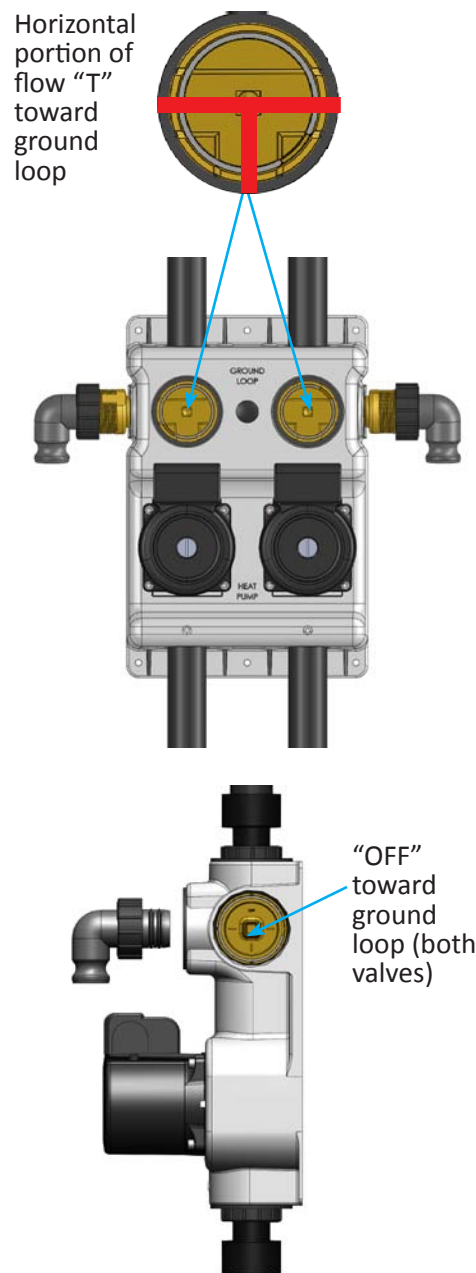

Figure 15: FPT flow center (top) and Flo-Link Double O-ring flow center (below) valve positions for ground loop isolation
19. Rotate 3-way valves on flow center so that the ground loop is isolated and fluid is directed toward the heat pump only. Figure 15 shows examples of how the valves may be oriented. This will vary depending on the flow center and installation.
5. Run the flush cart for at least 30 minutes, while monitoring the filter. This very fine filter will catch clay, sand and other debris. If the filter overflows during the process, stop the pump and clean the filter as necessary. Continue until the loop fluid is completely filtered. Clean the 100 micron filter with clean water while the one micron filter is being used. Rotate the valves on the flow center to direct the fluid to the heat pump and allow the pump to run for another five minutes. Figure 15 shows examples of how the valves may be oriented. This will vary depending on the type of flow center installed.